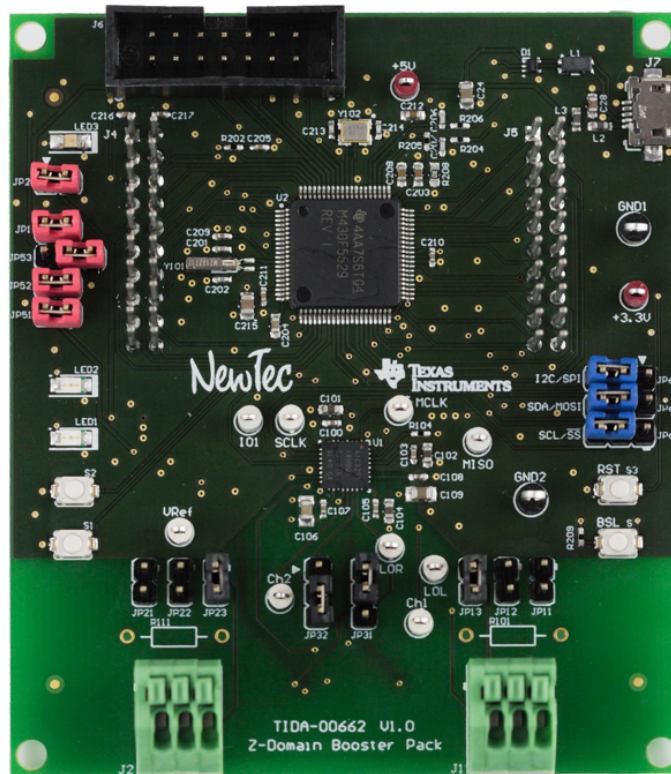

Figure 22. TIDA-00662 Board Overview
1. Check that the jumpers are in the right default position. Table 8 shows the necessary settings of the jumpers for starting the example code. The positions can be compared to the jumper positions in Figure 22, also.